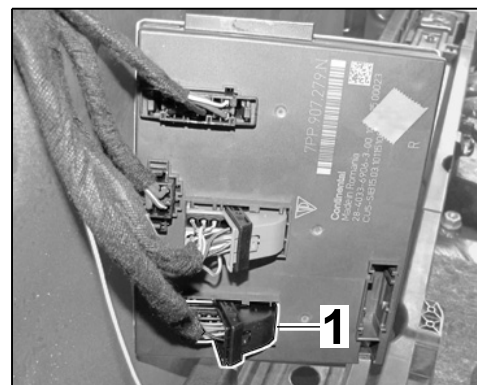

Figure 27
- 3.3.1 Disconnect electric plug connection ⇒ *Figure 27 -1-* from rear-end electronics control unit. ⇒ *Workshop Manual '578919 Removing and installing control unit for rear-end electronics'*